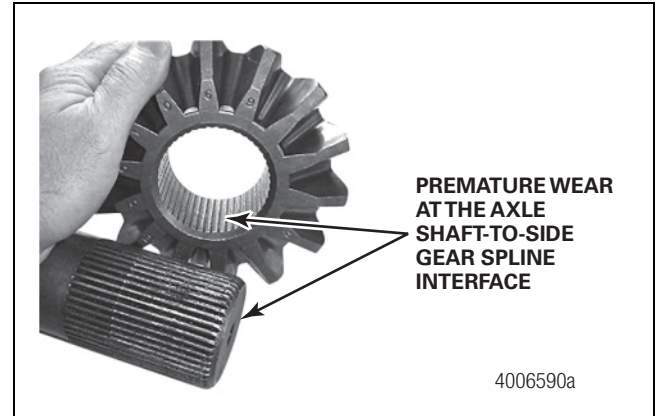

Figure 4.105
**Primary Damage:** Premature wear at the axle shaft-to-differential side gear interface caused by unusually heavy contact at the spline ends. Figure 4.105.